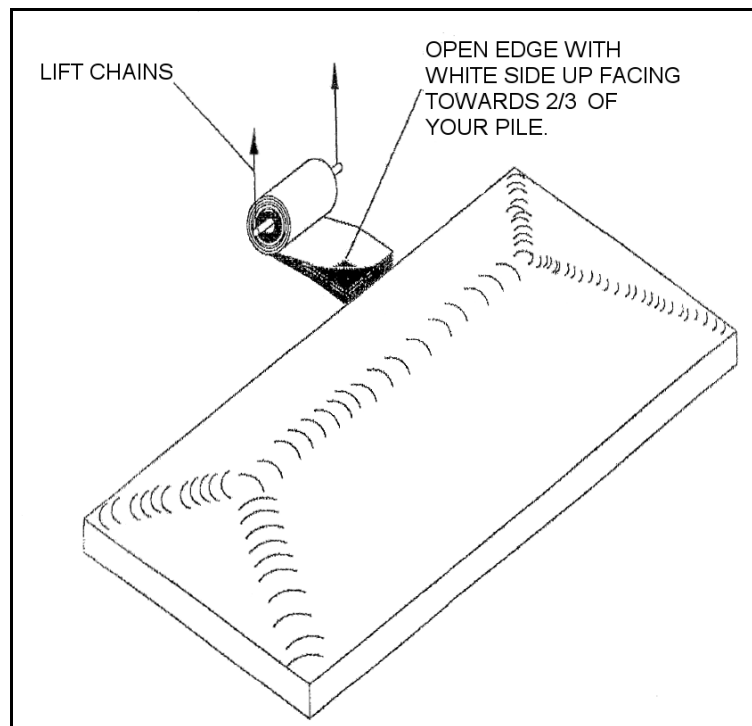

Figure 4.1
1. Place a pipe through the core of the roll. Hang chains from a forklift down to each end of the pipe. Remove wrapping, being careful not to cut grain cover. Position the roll about two-thirds of the way back the length of the bunker with the open edge white side facing up, directed towards two-thirds of the pile. See Figure 4.1.